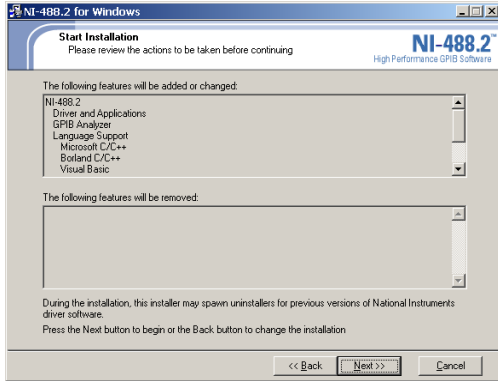

Figure 4F. Add or change features—installation page 5
7. The **Start Installation** page will open (Figure 4F), showing the features that will be changed. Click on the **Next >>** button.